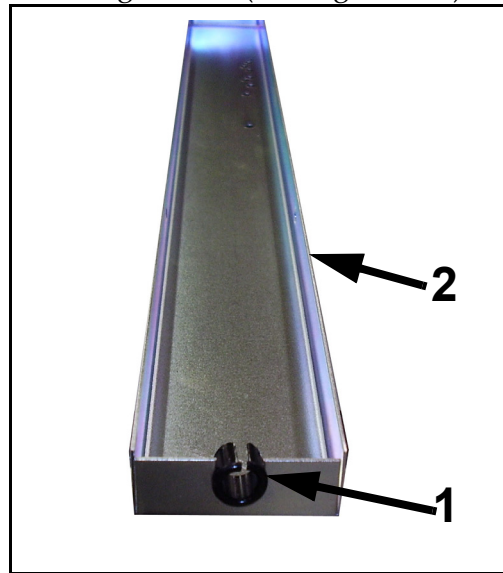

Figure 2-17. Cover Grommet
- 33** Remove the grommet (1 in Figure 2-17) from the cover (2).